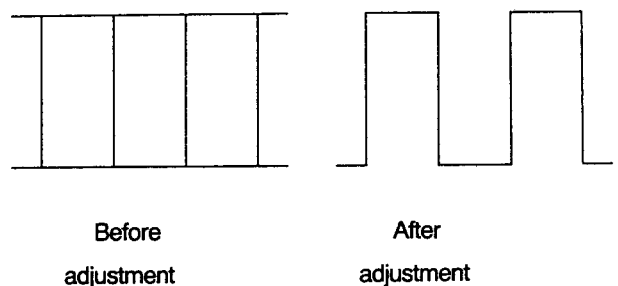

Figure.12
- c) Control the NC36 to stop the wave form movement as shown Fig.12